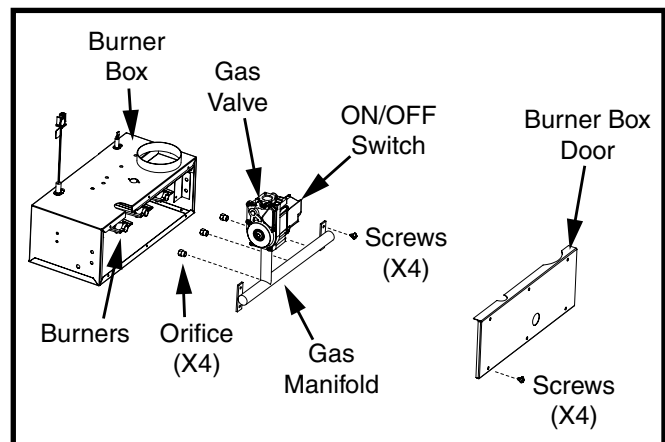

Figure 1. Burner & Manifold Assembly
3. Move the gas valve ON/OFF switch (see Figure 1) to the OFF position.